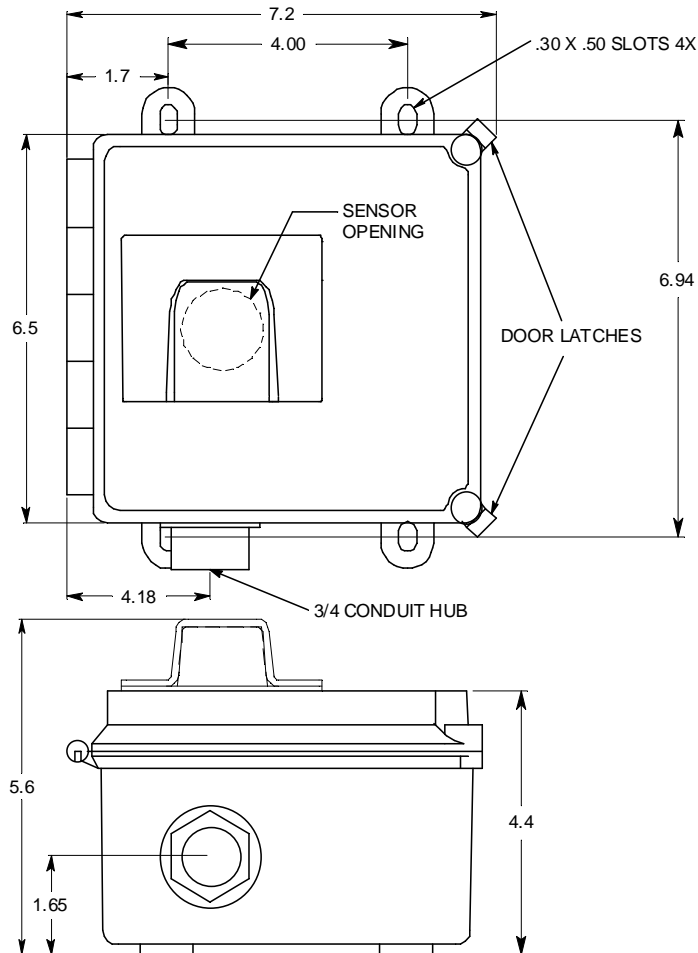

Figure 2: Outline & Mounting Dimensions/Component Location
- Use four 1/4" screws through the mounting feet to mount the GD-K8A4X to a vertical surface. See Figure 2 for the mounting dimensions.